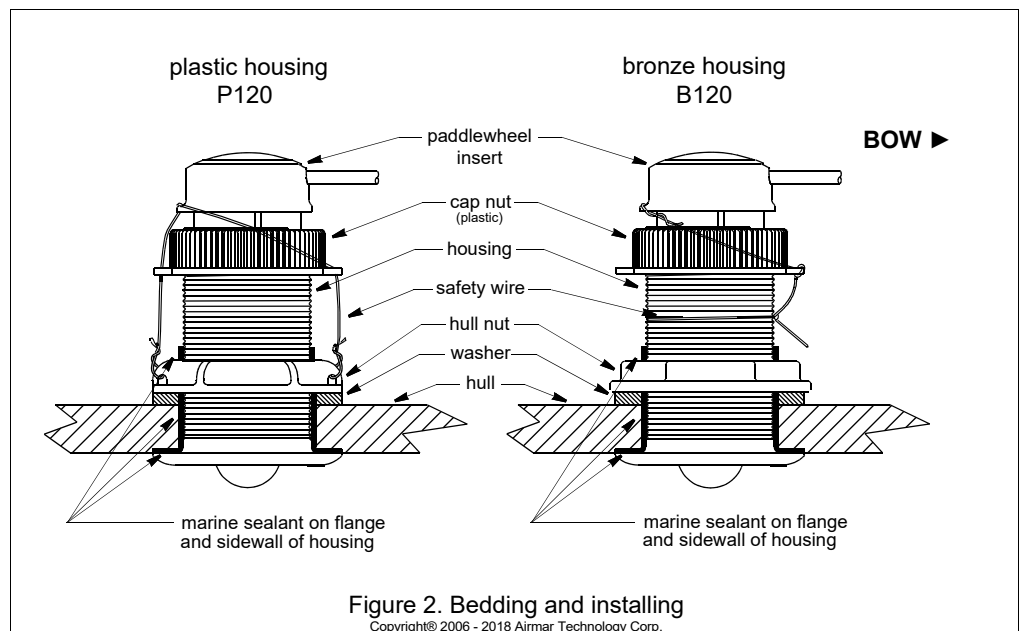

Figure 2. Bedding and installing
**CAUTION:** Be sure the surfaces to be bedded are clean and dry. Apply a 2 mm (1/16") thick layer of marine sealant around the flange of the housing that will contact the hull and up the sidewall of the housing (Figure 2). *The sealant must extend 6mm (1/4") higher than the combined thickness of the hull, washer(s), and hull nut.* This will ensure there is marine sealant in the threads to seal the hull and hold the hull nut securely in place.
1. From outside the hull, push the housing into the mounting hole using a twisting motion to squeeze out excess marine sealant (Figure 2). *Align the arrow on the flange of the housing to point forward toward the bow.* If the sensor is not installed on the centerline, angle the housing slightly toward the centerline to align it with the water flow.
2. Remove the insert from the housing by removing the safety wire from the cap nut (Figure 2). Unscrew the cap nut to lift the insert. Remove the insert with a slow pulling motion.
5. Push the blanking plug into the housing. Screw the cap nut several turns until the threads are engaged. *Rotate the blanking plug until the key fits into the notch in the housing.* Continue to tighten the cap nut. **Hand tighten** only. Do not over tighten. Reattach the safety wire (Figure 2).
8. Slide the insert/blanking plug into the housing with the arrow on the top pointing forward toward the bow (Figure 2). Screw the cap nut several turns until the threads are engaged. *Rotate the insert (or the blanking plug) until the key engages the notch in the housing.* Be sure the arrow on the top is facing forward toward the bow. Continue to tighten the cap nut. **Hand tighten** only. Do not over tighten.